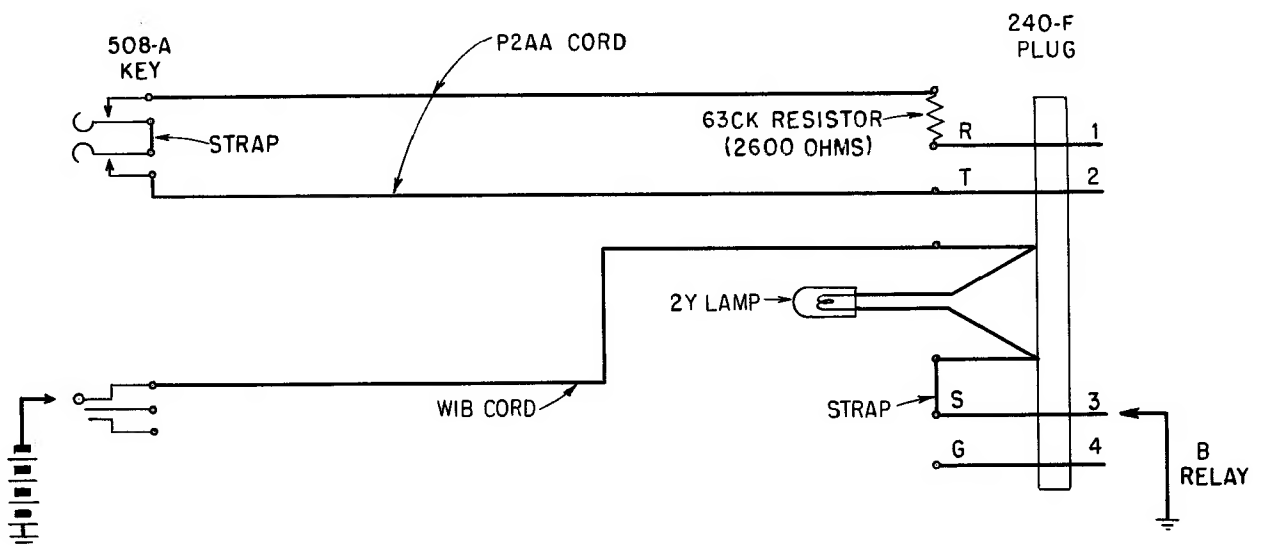

Fig. 1 — Connector Seizure Test
2.01 Assemble locally the test shown in Fig. 1 as follows: